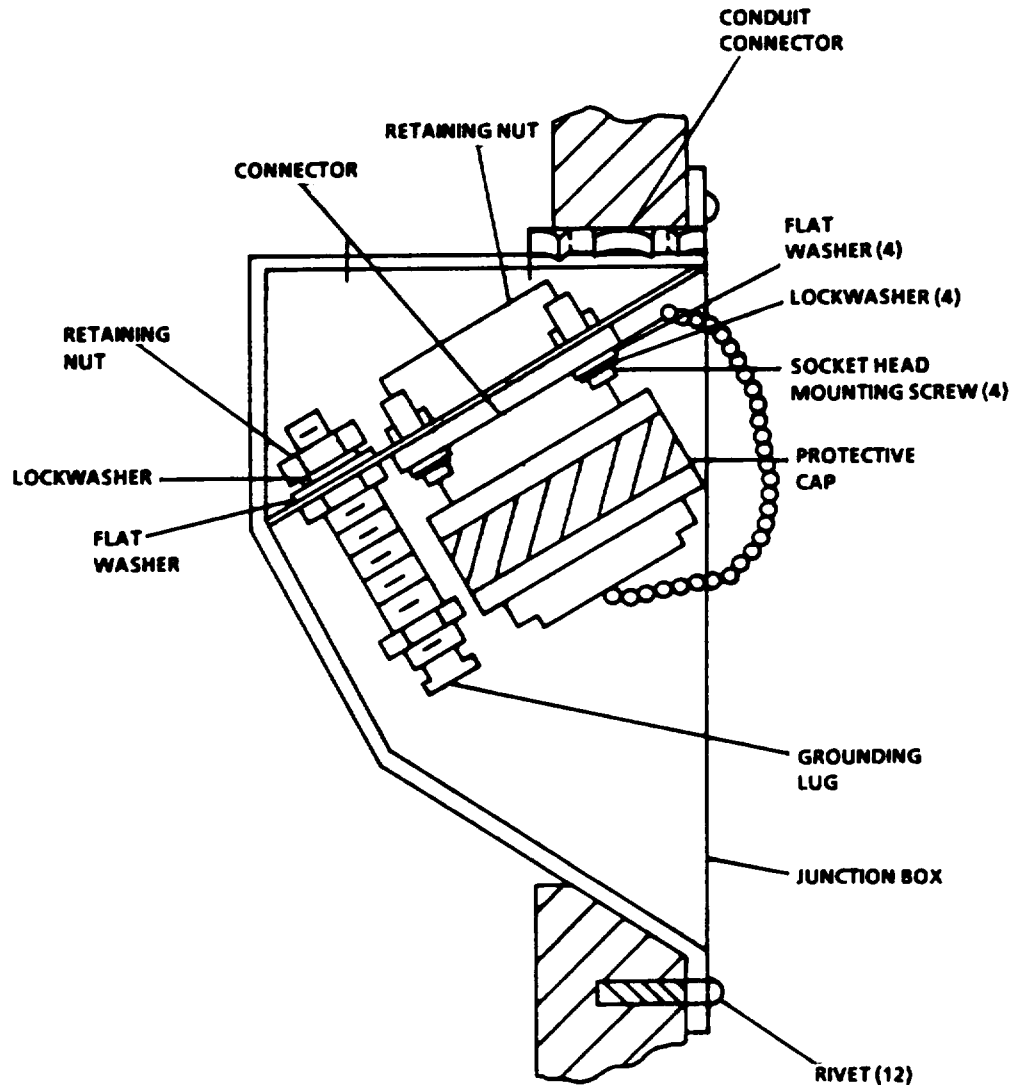

Figure 4-1. Power Entry Panel
1. Remove junction box from laboratory. See figure 4-1.
2. Remove grounding lug. See figure 4-1.
1. Install grounding lug. See figure 4-1.
2. Install junction box. See figure 4-1.
Assembly power input connector and protective cap. See figure 4-1.